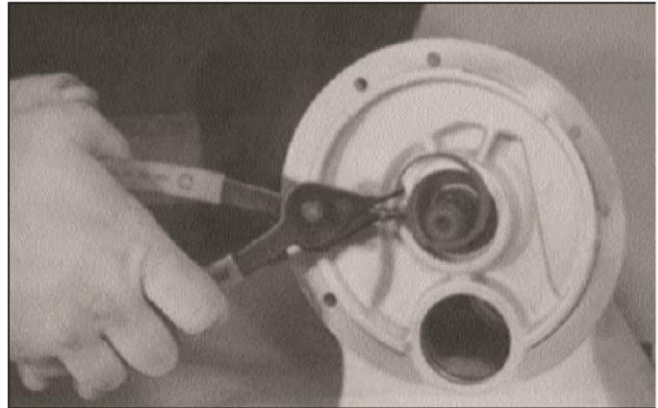

Figure 7-17
17. Remove oil seal (30 not shown) and snap ring (16) from input shaft bore (12). See Figure 7-17.